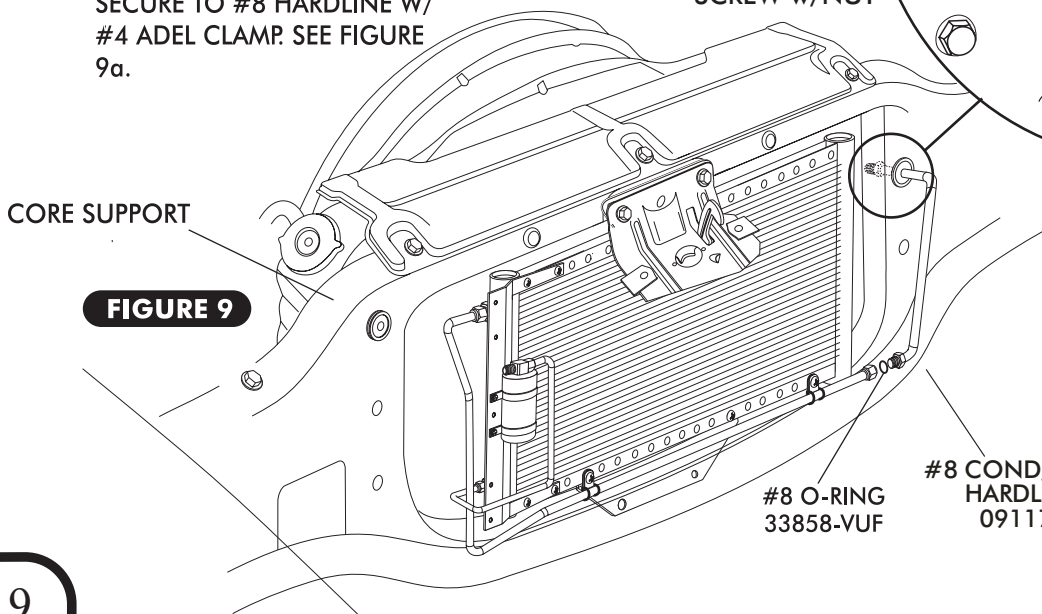

FIGURE 9
- ☐ LUBRICATE A #8 O-RING (SEE FIGURE 4a, PAGE 7) AND INSTALL THE #8 COND/COMP HARDLINE AS SHOWN IN FIGURE 9 BELOW. TIGHTEN FITTINGS AS SHOWN IN FIGURE 4a, PAGE 7. INSTALL #8 COND/HARDLINE BRKT USING OEM BOLT AND SECURE TO #8 HARDLINE W/ #4 ADEL CLAMP. SEE FIGURE 9a.